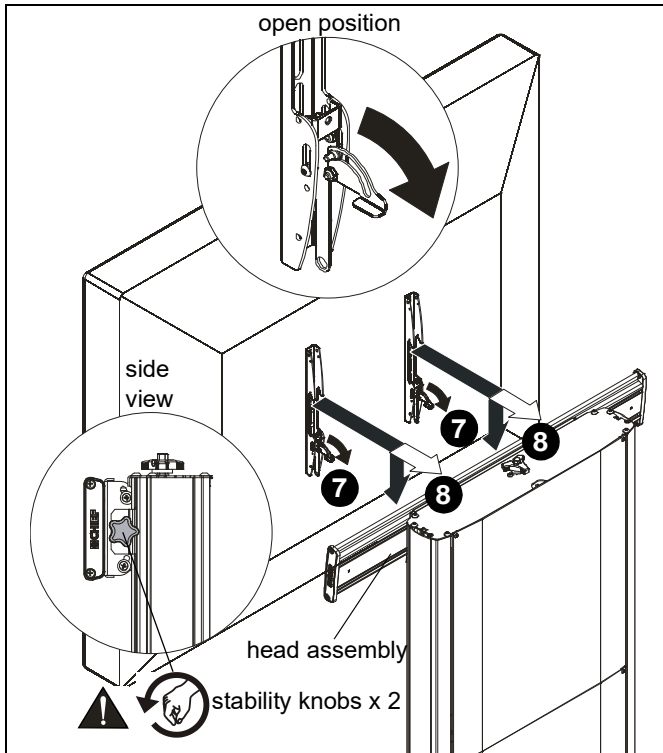

Figure 10
7. Position latches on interface uprights so that they are in the "open" position. (See Figure 10)
8. Hang interface uprights (B) on head assembly. (See Figure 10)